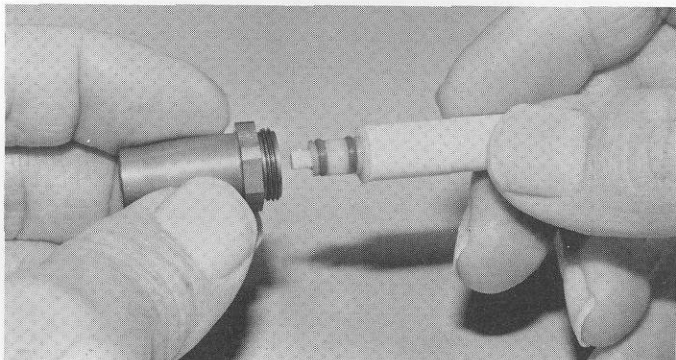

Fig. 62
Fig. 62 (1) Take the shock body and the shock tool, with the internal parts on it, and slowly insert the tool into the shock body until it bottoms out and all of the parts are fitting into the cavity. If everything goes in smoothly, this will allow the tip of the shock tool to be even with or just slightly out of the bottom of the shock body. If it's not, you may need to rotate the shock body to help it seat the parts the rest of the way into the shock cavity. (2) Now stand the shock tool on your workbench, with the shock body on top, and firmly push down on the shock body until you hear and feel the split washer snap into its groove. The new parts are of a harder material so you must push hard before it will go in. When the parts are properly installed, the end of the shock tool should be sticking out the bottom of the shock just about 1/8". (3) Once the parts have been properly snapped into place pull the tool out. (4) Look inside the shock body for any obvious signs that the parts did not go together correctly. **MAKE SURE THE SPLIT WASHER IS FULLY SEATED IN ITS GROOVE. IF THE PARTS ARE NOT SEATED CORRECTLY, THE SHOCK WILL LEAK OR EVEN COME APART INTERNALLY.**